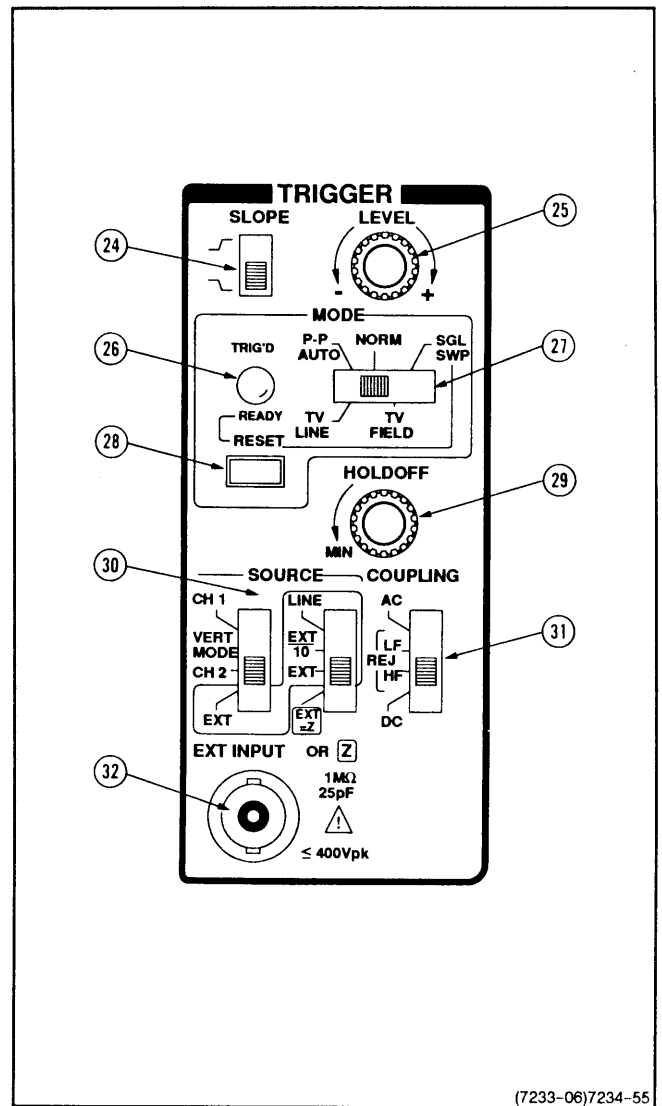

Figure 2-6. Trigger controls.
See Figure 2-6 for location of items 24 through 32.